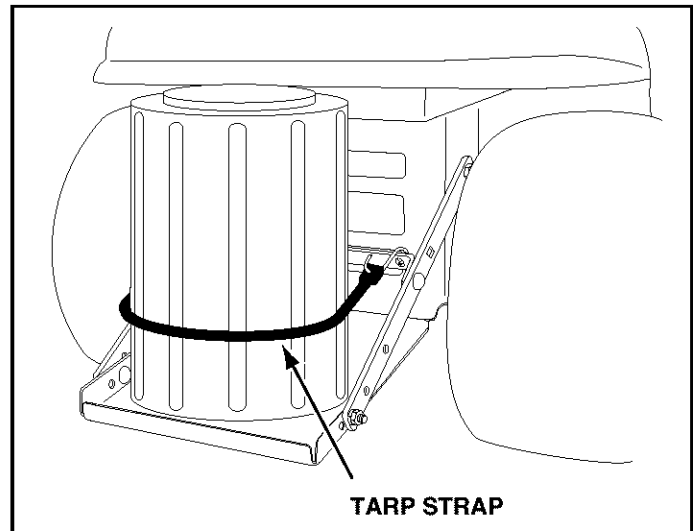

FIGURE 26
- Secure the keg with the rubber tarp strap hooked into the holes in the cross brace. See figure 26.